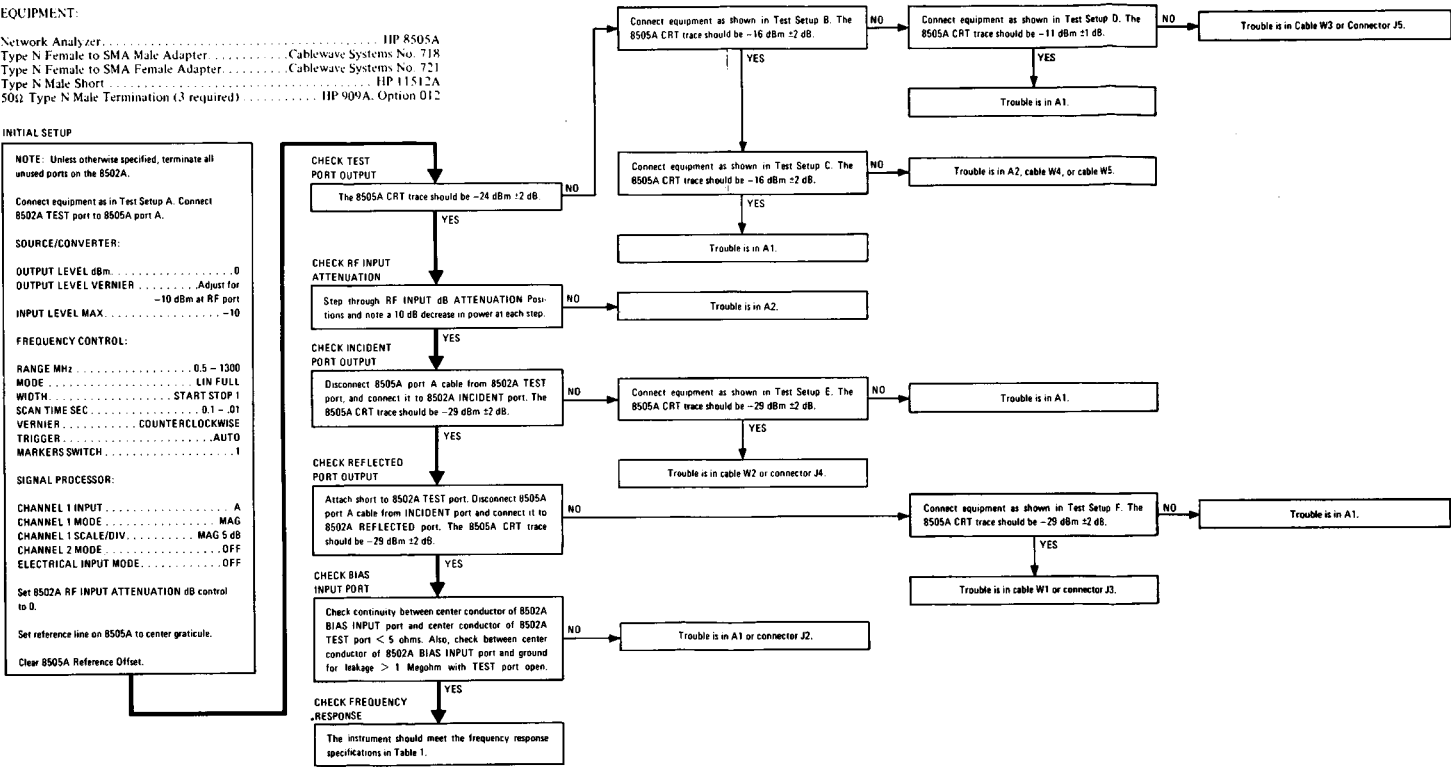
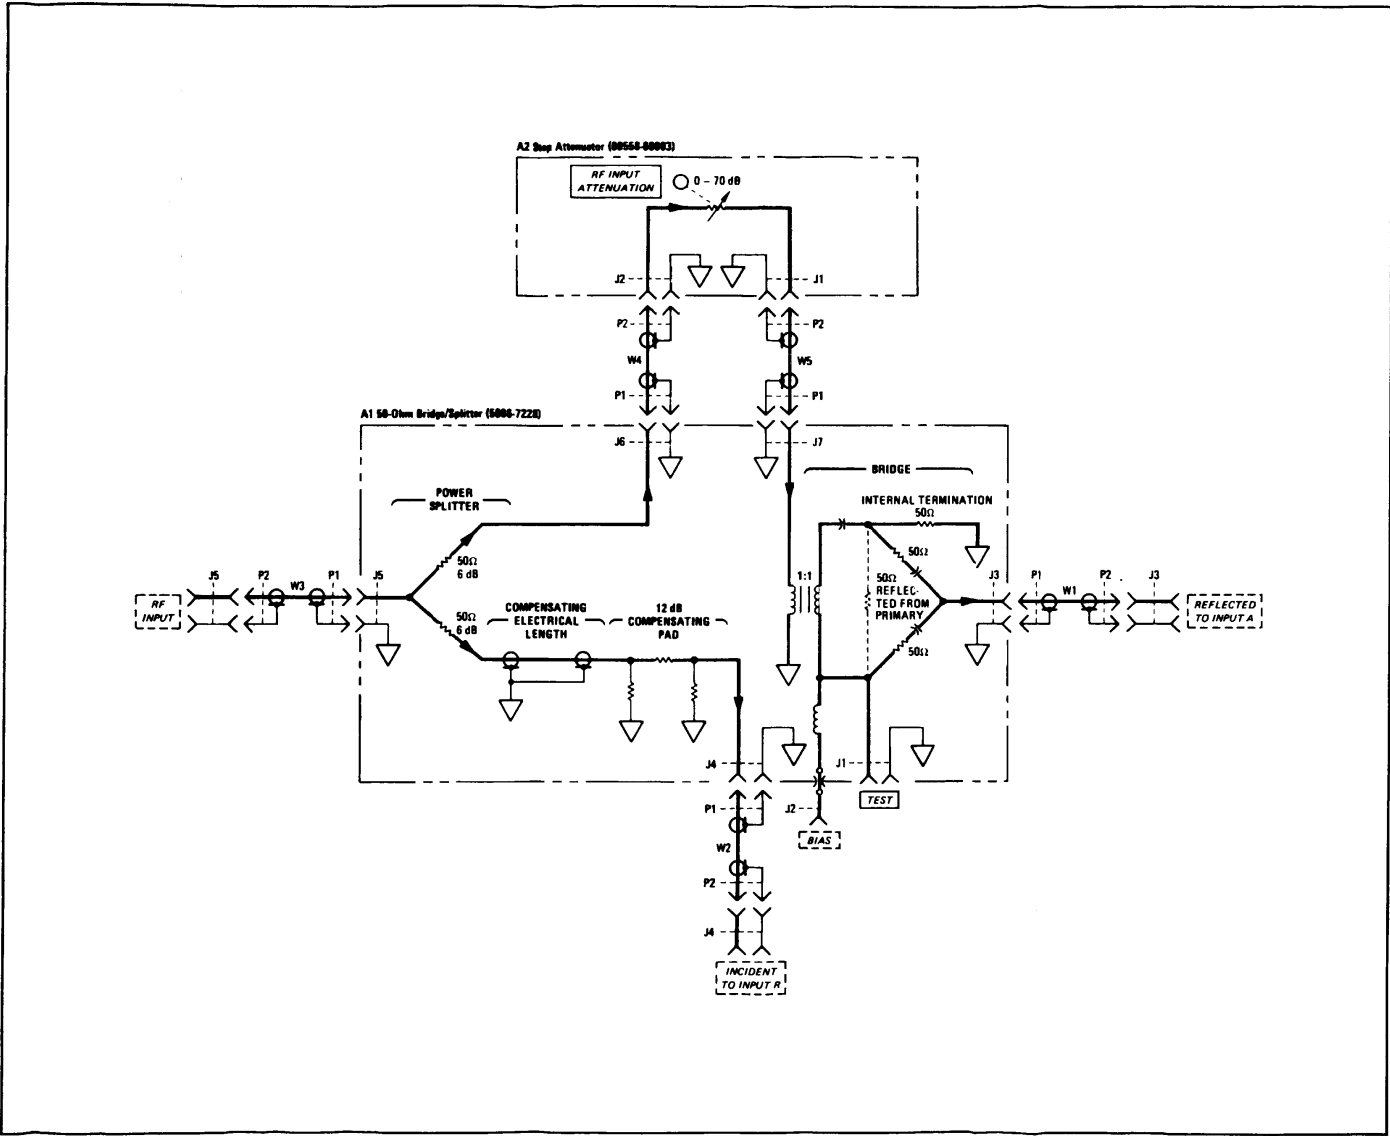

Figure 26. Model 8502A Transmission/Reflection Test Set Troubleshooting Procedure (2 of 2)
Figure 27. Model 8502A Transmission/Reflection Test Set Equivalent Circuit
- 72. A troubleshooting flow diagram (Figure 26) provides a step-by-step procedure to isolate the cause of malfunction and identify the defective assembly or component. An equivalent circuit diagram (Figure 27), and major assemblies locator (Figure 28), aid in troubleshooting to the component level.